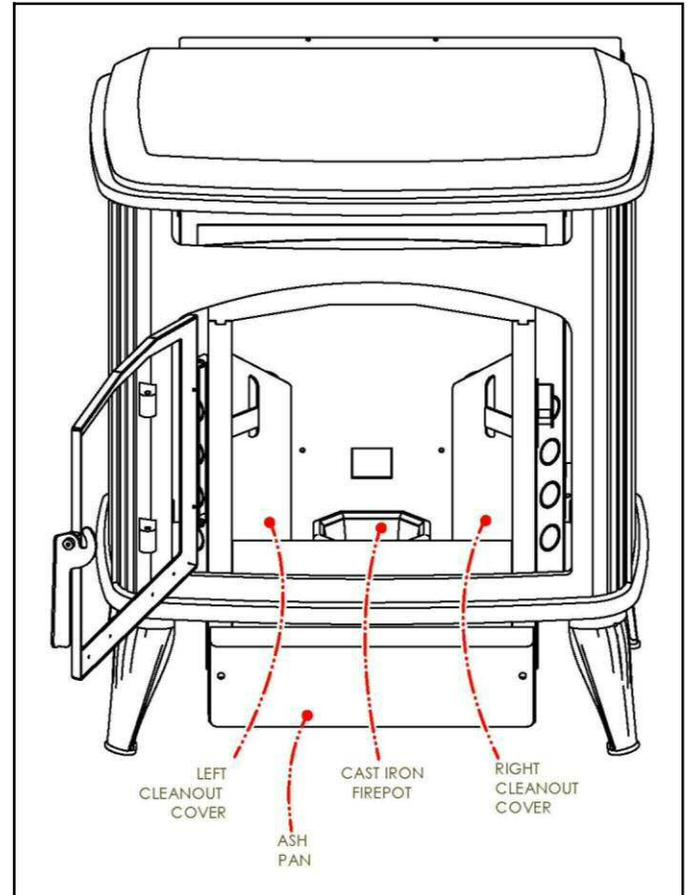

FIGURE 12
- b. Open door and remove clean out cover screws. To remove, simply unscrew and lift out from each side (see Figure 12). Clean one side at a time. With covers removed, leave the door open and push the “Clean” button. Let heater run 30 seconds, push to “Off,” and replace cover. Remove the remaining clean out cover and repeat procedure for other side.
feature (see Figure 12). (See Figure 16 for routine stove clean out and maintenance.)
Solution: When the pellets are overfeeding, it usually means that the air flow has been reduced. Check the fire pot air intake holes to be sure they are clear. Check to see if fire pot was properly seated in the pot tray. If you use a low-grade pellet and clinkers (fused ash and dirt) form in the bottom of the fire pot and chock the air intake, you might consider changing the brand of pellets to one that burns cleaner. You must let the fire go out before removing and cleaning the fire pot. Never vacuum out the heater when the heater is in operation! The hot ashes can lodge in your vacuum cleaner and cause a fire! You must clean the heat exchanger tubes (see Figure 12) regularly to ensure a good air to fuel ration, thus allowing the heater to "breathe" properly. You must also check the tee and vent pipe to see that they are not clogged and full of ash.